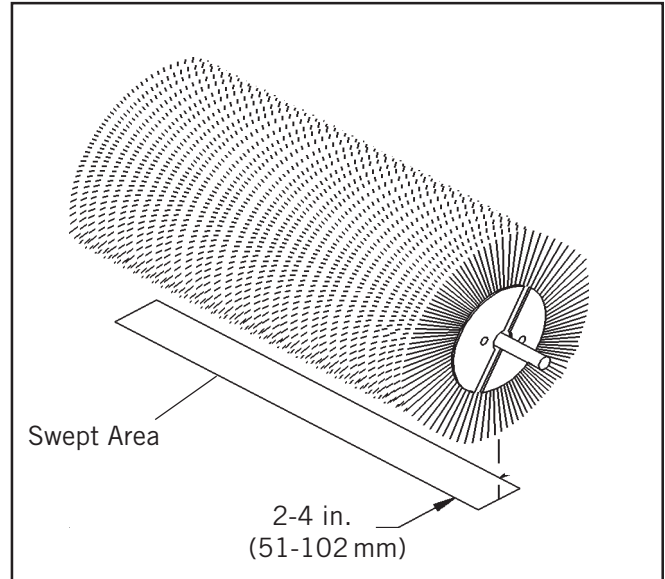

Figure 1
4. Raise the sweeper and back away; switch off the engine and remove the key. The brush pattern left in the dust should be 2-4 inches (51-102 mm) wide, running the length of the brush. (Compare the swept area with (figure 1)